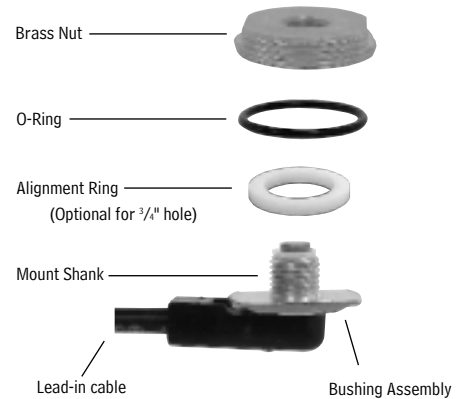

Figure 1
- Refer to Figure 1 for an assembly diagram. The mount requires a $\frac{3}{4}$ " (19mm) hole in a flat area with a thickness of (0.5mm to 1.0mm) .020" to .040".